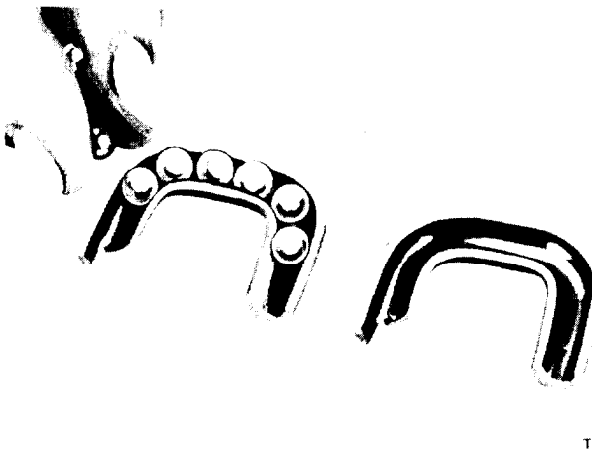

Figure 21-5. Filling Ball Guides.
(6) Place one set of ball guides on the bench, with the ball groove in each guide half facing upward. Position the remaining seven balls into the groove of one ball guide half and cover them with the second guide half. Holding the two halves together, plug the opening on each end with a dab of grease to keep the balls in place while installing the guide assembly (figure 21-5).
(7) Push the guide assembly into the guide holes of the nut. If a slight bind is encountered, tap it lightly into place with a screwdriver handle. After the guide assembly is in position, one ball circuit is completed.
(8) Use the same procedure to assemble the second ball circuit. Install the ball guide clamp and tighten the screws to 30 ft-lbs. Rotate the nut on the worm to check for binding and free movement.